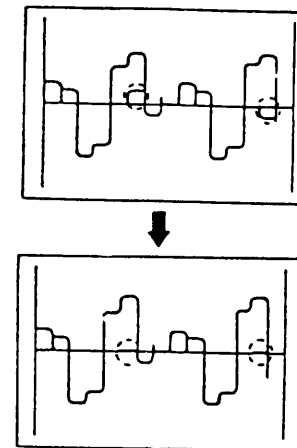

Fig 3.
- 3: Adjust A to 0 level with VR306 as shown in fig. 3.